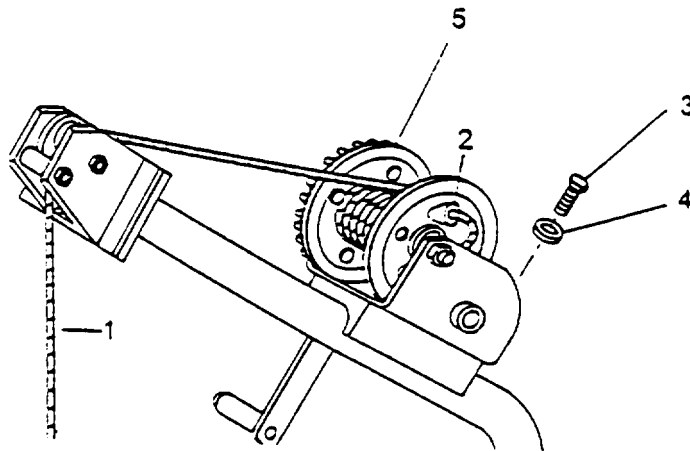

Figure 4-2. Winch Assembly Replacement
- a. Loosen two self-locking nuts (1) on each hoist strap (2). Do not remove nuts.
- b. Slide hoist pipe (3) out of both hoist straps (2).
- c. Remove hoist bearing (4).
- a. Position hoist bearing (4) on floor of base.
- b. Slide hoist pipe (3) under both hoist straps (2) and rest on bearing.
- c. Tighten two self-locking nuts (1) on each hoist strap (2).
**4-10 WINCH ASSEMBLY REPLACEMENT.** (Refer to Figure 4-2)